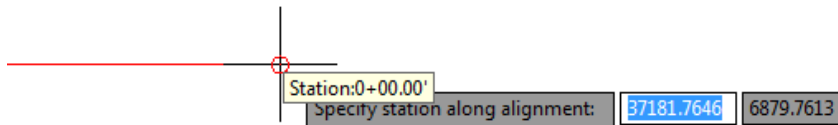

Figure 2-53 A tooltip showing the first stations
4. Zoom in to view the alignment and click on **0+00** at the start of the alignment. Note that as you move the cursor over the alignment, a tooltip showing stations is displayed, as shown in Figure 2-53; you are prompted to specify the offset distance.